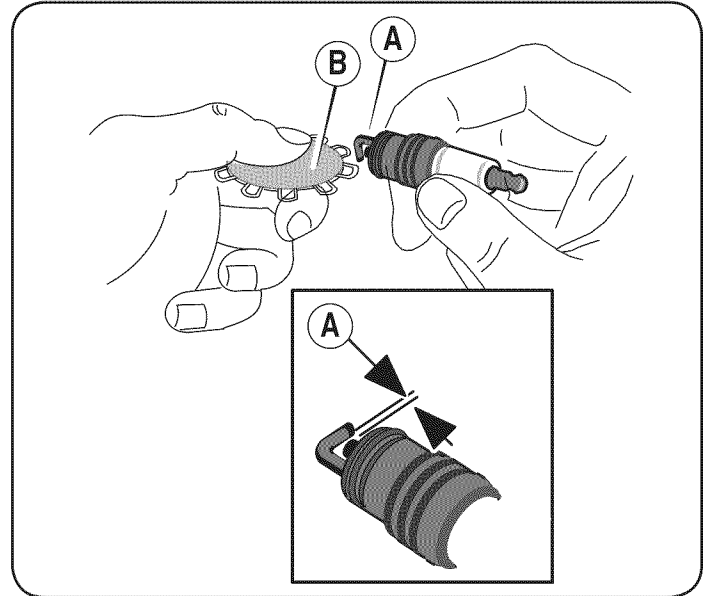

Figure 11
3. Check the gap (A) with a wire gauge (B). See Figure 11. Spark plug gap should be 0.030 in (0.76 mm). If necessary, reset the gap.